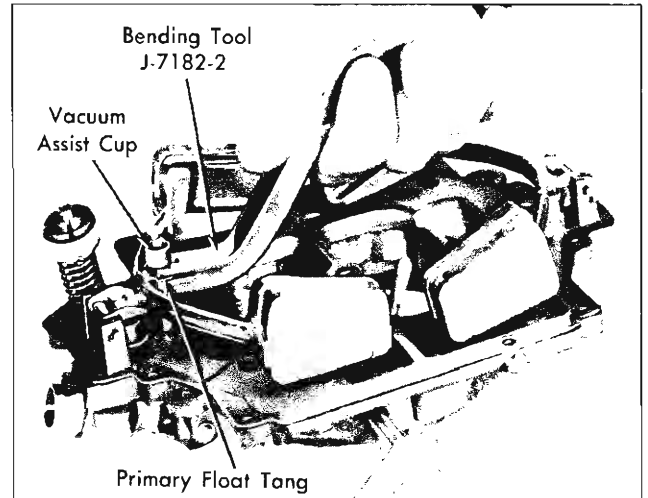

Fig. 47—Bending Primary Float Tang
5. If adjustment is necessary, bend slotted tang at center of float arms, up to increase float drop, and down to decrease float drop. Hold vacuum assist cup up to install Bending Tool, J-7182-2, on tang, Figure 47.